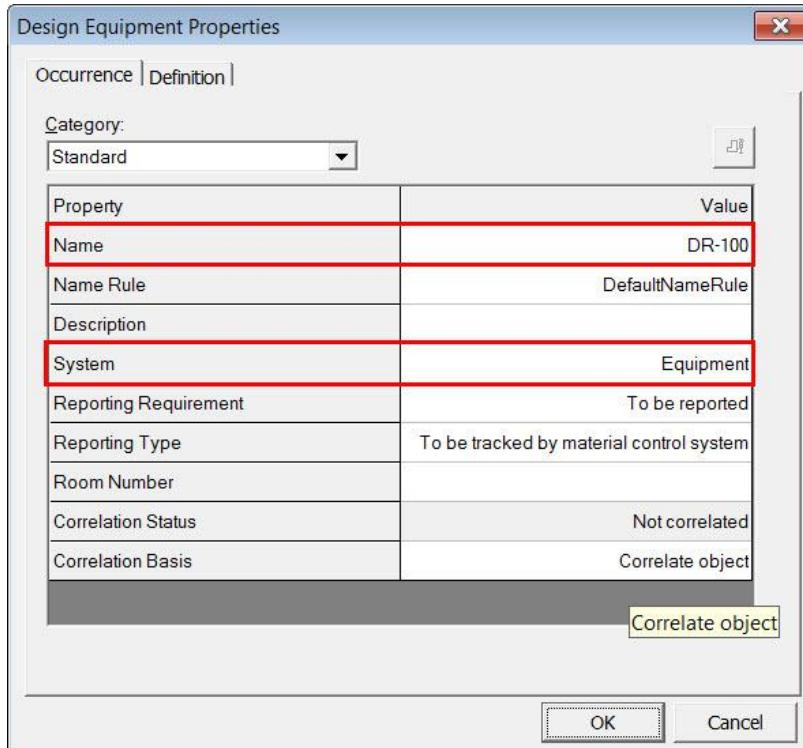

Figure 6. 6: Standard Category in the Design Equipment Properties Dialog Box
23. Key in the following specifications on the **Position and Orientation Category** in the **Design Equipment Properties** dialog box (Refer to Figure 6. 7):